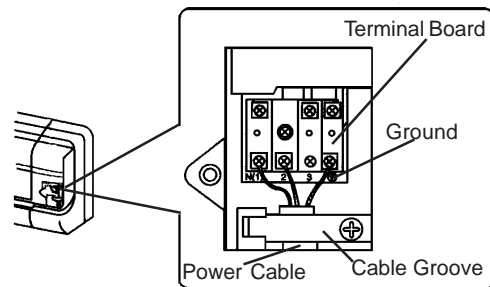

Figure 8
4. Connect the *neutral* wire coming from the power cable to the “N” (1) terminal on the terminal board; connect the *signal* wire to the “2” terminal; connect the *live* wire to the “3” terminal; connect the “ground” wire to the ground terminal. See Figure 8.